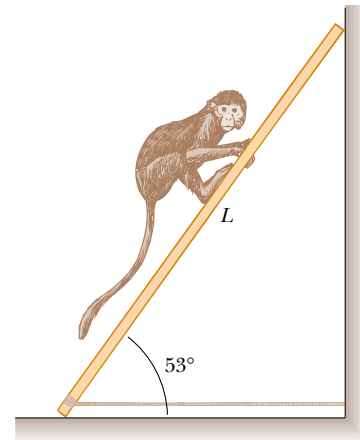

Figure P12.41
41. A 10.0-kg monkey climbs up a 120-N uniform ladder of length L , as shown in Figure P12.41. The upper and